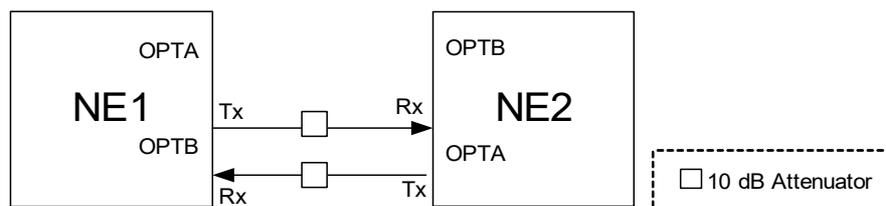

Figure 5
- c. Before using fiber to connect the two devices, the parameters of STM-1 optical interface (Mean launched power– maximum and Minimum overload) should be considered carefully. Whether or not the 10 dB/ 15 dB attenuator being required depends on the optical module. For example, for the SFP optical module with 40Km, the mean launched power-maximum is 0dBm and the minimum overload is -10dBm, the 10 dB attenuator is required to undertake the short distance (much less than 40Km) testing in the laboratory. as figure 5 shows: